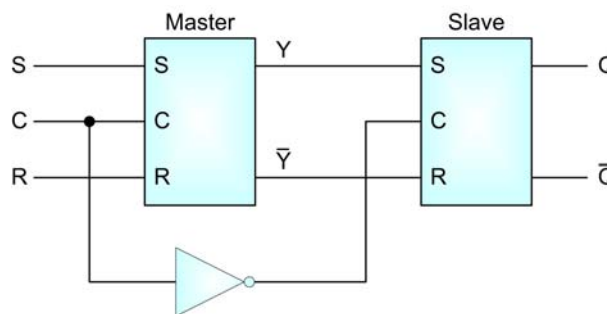

Figure 2: Block diagram of SR Master-Slave Flip-Flop
- The simplest way to build a flip-flop is by using two latches in a ‘Master-Slave’ configuration as shown in Figure 2.